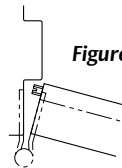

Figure 2 - Semi-Mortise Mounted
- b) Semi-mortised: the plunger contacts the rabbet (see Figure 2).